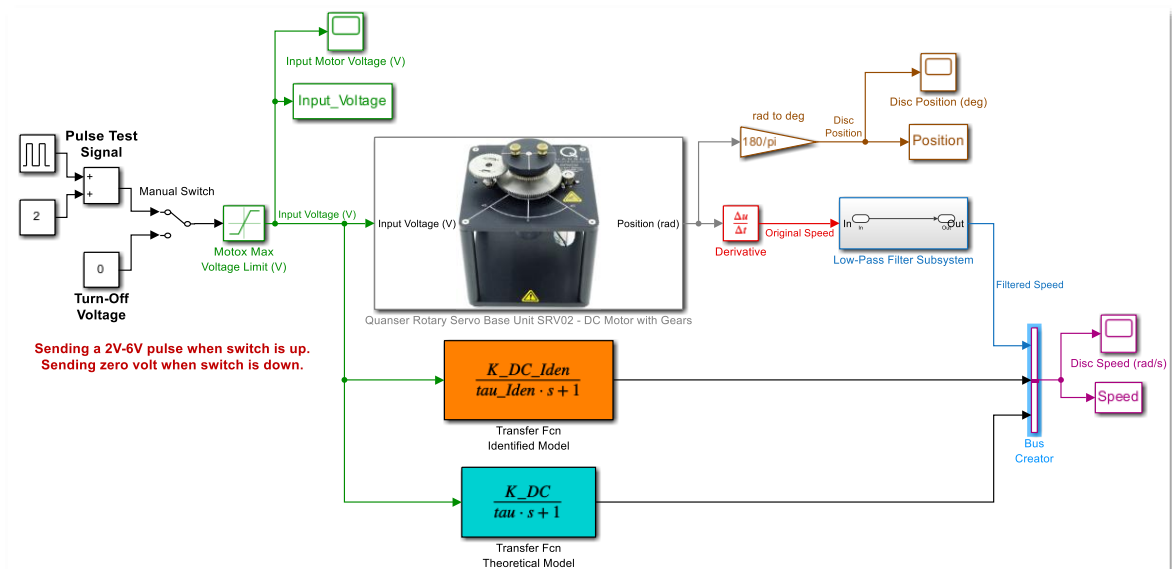

Fig. 2-9. Comparison of the actual filtered DC motor speed response with the identified and theoretical model responses.
9. **Modify** the Simulink model template to include both the **identified** and **theoretical** transfer function models (Fig. 2-9).